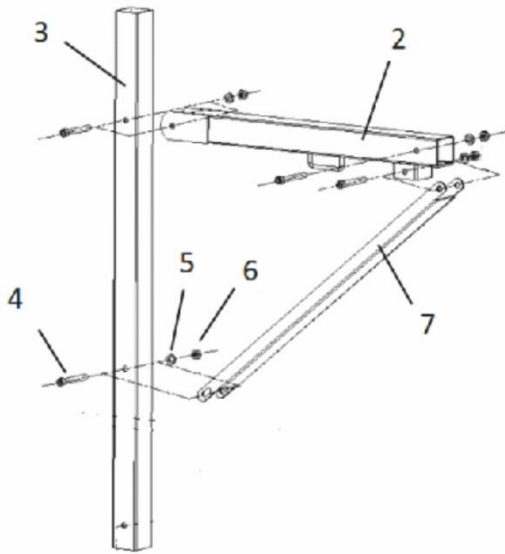

figure 3
- A. Assemble cross bar(2) and support Bar (7) to vertical bar (3) using 3 sets of bolt (4), washer (5) and lock nut (6) . Show as figure 3.